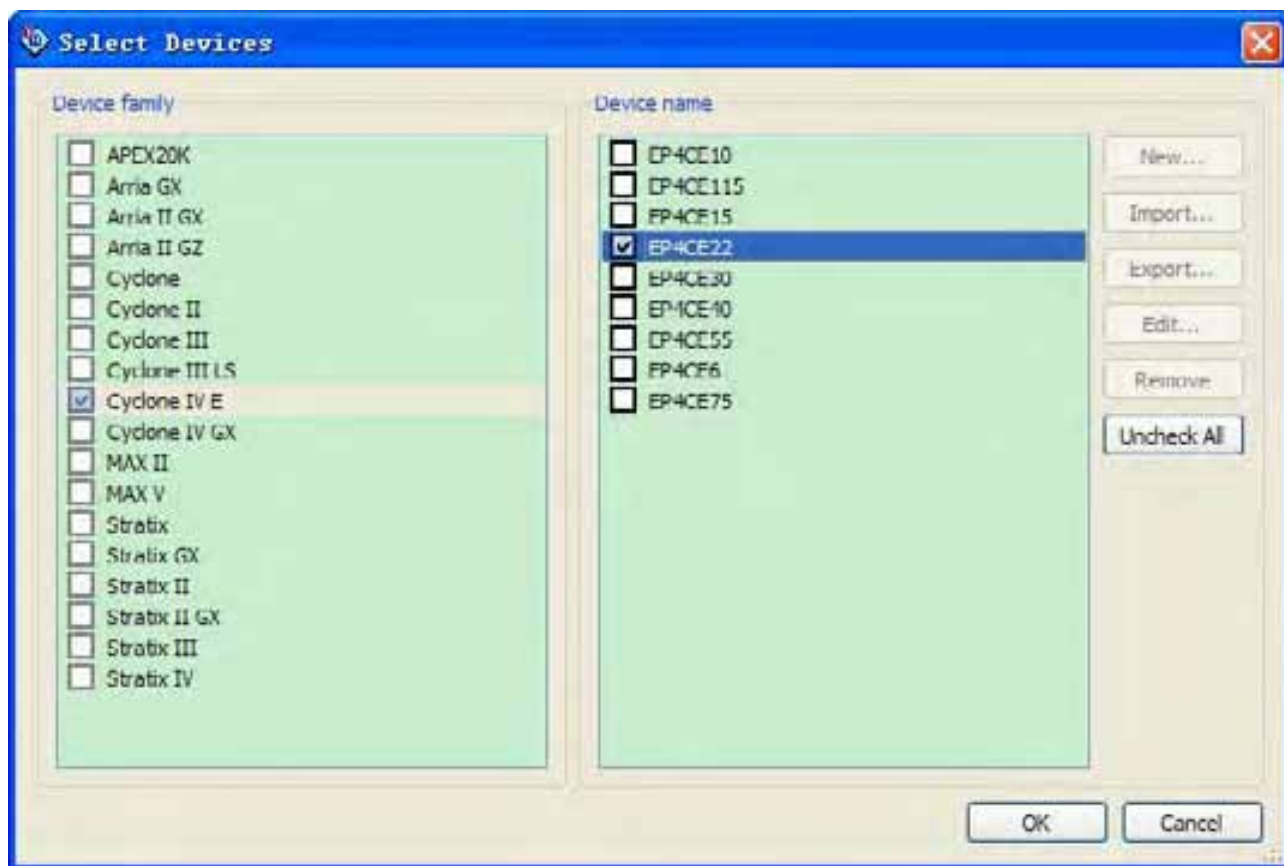

Figure 9-3 Select Devices Page
11. Select the targeted FPGA, Cyclone IV E EP4CE22, as shown in Figure 9-3.